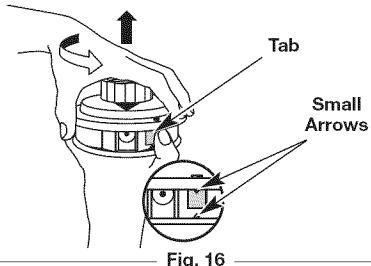

Fig. 16
- Align the small arrows on the spool (Fig. 16).
- Press the tab inward and twist the spool cover counterclockwise (Fig. 16).